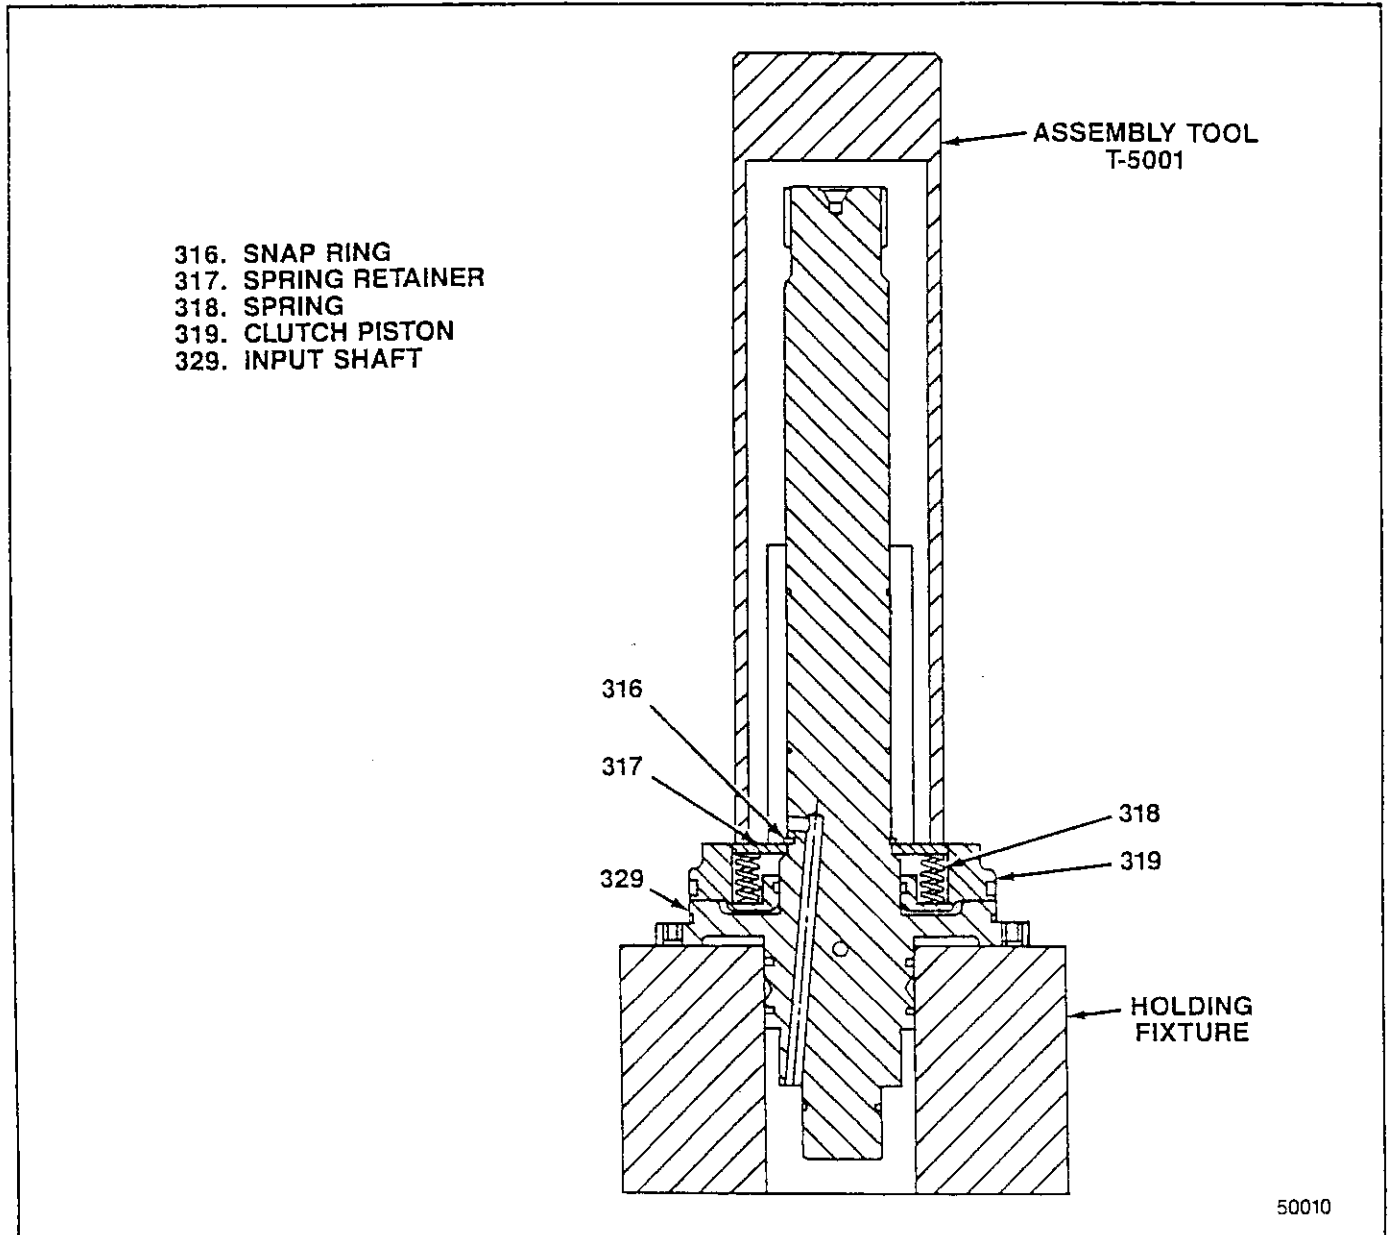

Figure 3-12. Removing Snap Ring
3. Support input shaft (329) in suitable holding fixture (see figure 3-12) in arbor press. Using assembly tool T-5001, press down on spring retainer (317) to compress springs (318) slightly. Remove snap ring (316).
4. Slowly release arbor press, allowing springs (318) to expand. Remove assembly tool, spring retainer (317) and sixteen springs (318). Remove shaft assembly from arbor press and holding fixture.
5. Remove clutch piston (319) from input shaft (329). Remove sealing ring assembly (320), consisting of sealing ring (321) and o-ring (322), from groove in piston OD. Remove sealing ring assembly (323), consisting of sealing ring (324) and o-ring (325), from groove in piston ID.
6. Remove o-ring (326), two seal rings (327) and seal ring (328) from input shaft (329).